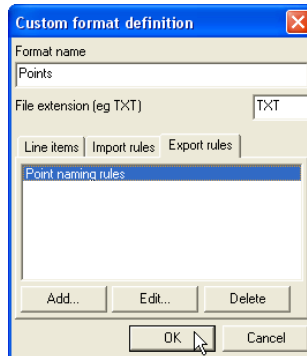

Figure 2-20. Save the New Format
11. After adding the desired *Line items*, *Import rules*, and *Export rules*, click **OK** to save the new format (Figure 2-20).